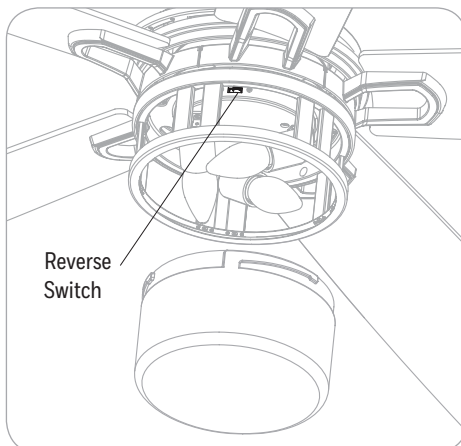

Figure 6.2
2. Use the reverse switch located on the light lot to optimize your fan for seasonal performance. **In warmer weather**, push the reverse switch left, which will result in downward airflow creating a wind chill effect. **In cooler weather**, push the reverse switch right and the fan to low, which will result in upward airflow that can help move stagnant, hot air off the ceiling area (Figure 6.2).